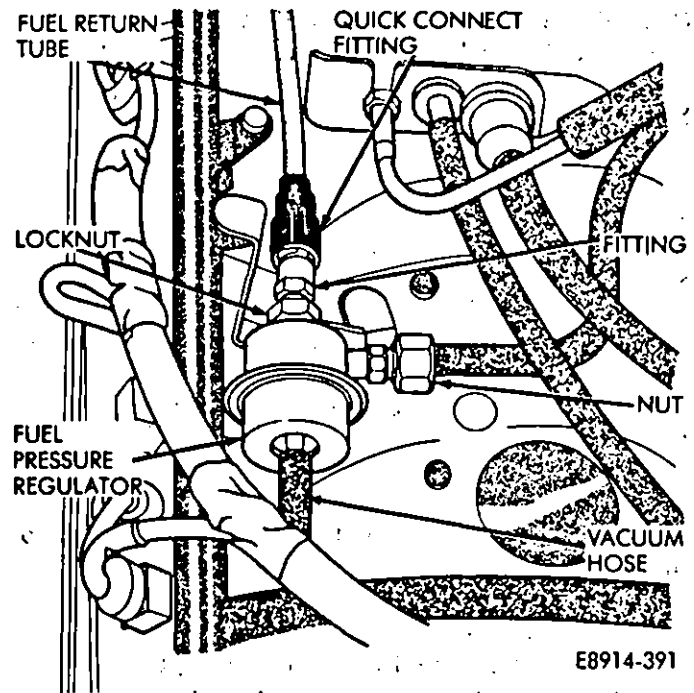

Fig. 20—MPI Fuel Pressure Regulator Removal/Installation
(2) Disconnect vacuum hose from pressure regulator (Fig. 20).
(3) Unscrew line nut from the fitting at the side of the fuel pressure regulator (Fig. 20).
(4) Remove nipple fitting at the return side of the regulator.
(5) Remove locknut and washer. Remove the regulator.